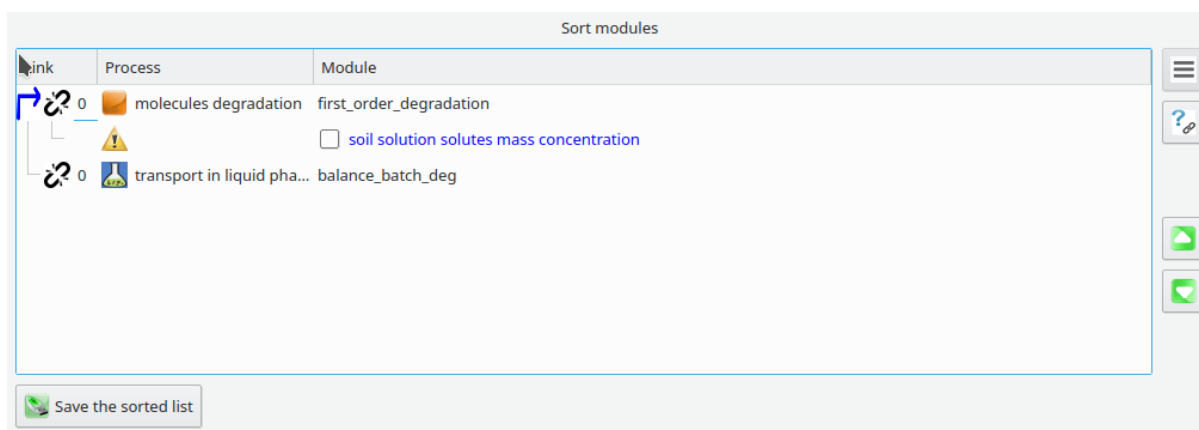

Figure 10: Warning appearing in the ordered list of modules
Note: the  icon appears in front of the variable tagged as *Iterate with* if the module receiving these variable is executed before the module providing it (in figure 10, module *first_order_degradation* is executed before module *balance_batch_deg*). This means that module *first_order_degradation* will start its iterations using the outputs of module *balance_batch_deg* calculated at the previous time step.
- There is no constraint on the order in which the modules are called by the coupler. For example, if MA, the module providing the inputs, is called after module MB, then MB will start its iterations using the outputs of MA at the previous time step (it is the reason of the presence of  icon on figure 10, see explanation above). If MA is called before MB, then MB will start its iterations with the current outputs of MA.